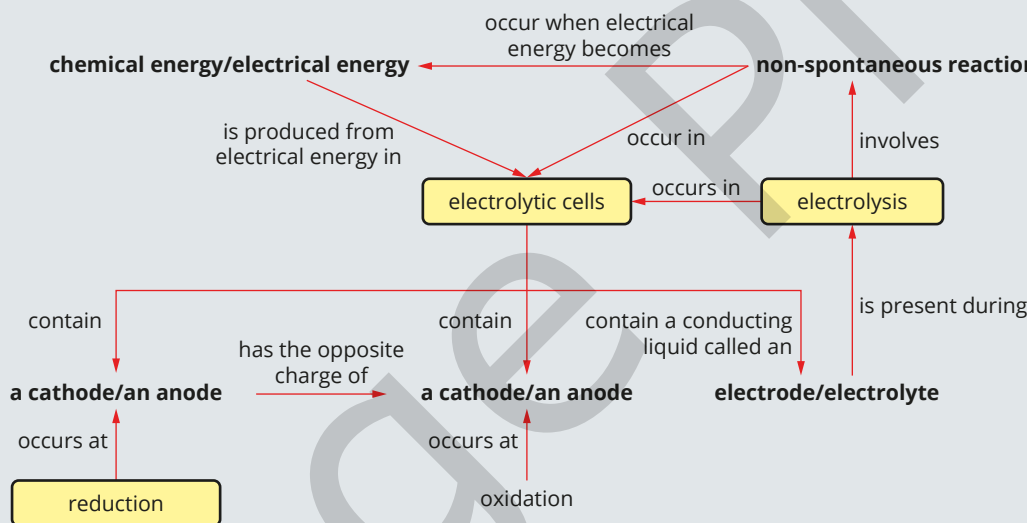

FIGURE 10.4.1 Basic concepts of electrolytic cells and energy conversion
- Select the correct terms in bold in the concept map in Figure 10.4.1, which illustrates the basic concepts of electrolytic cells and energy conversion.